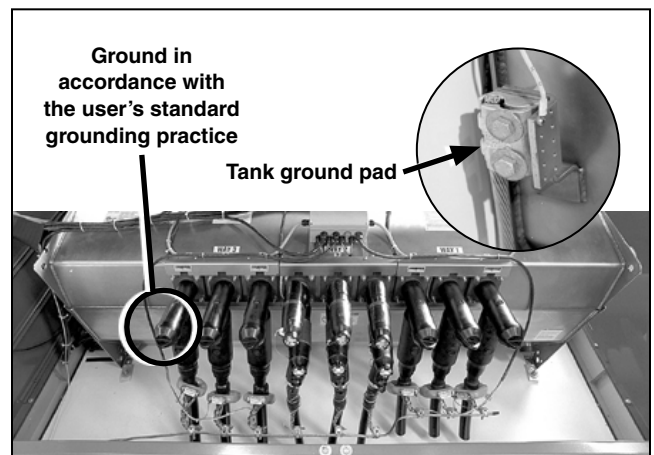

Figure 27. The ground wire G1 attached to the tank.
- (b) The G1 ground wire is labeled and located in the low-voltage compartment. Carefully insert the G1 wire from the low-voltage compartment through the PVC pipe into the main enclosure. Connect the ground wire G1 to the copper ground pad located on the tank. See Figure 27.